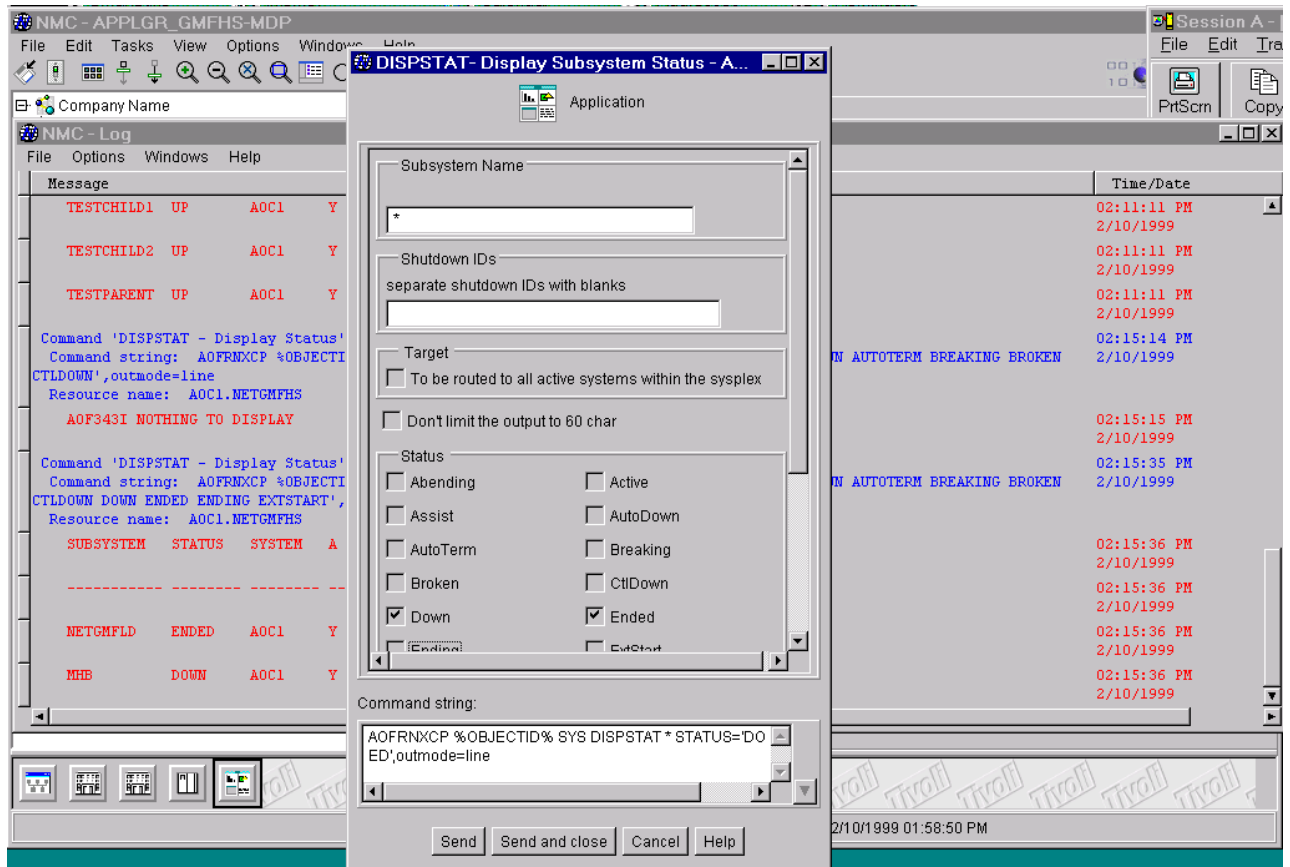

Figure 5. DISPSTAT Dialog
5. If you select one of the applicable commands, you get a corresponding dialog box where you can specify the parameters for the command. In Figure 5 on page 9, you see the dialog for the DISPSTAT command which should display all systems that are **Down** or **Ended**. The same figure also shows the command string that is composed from NetView Management Console according to the options you specified in the command's dialog box.